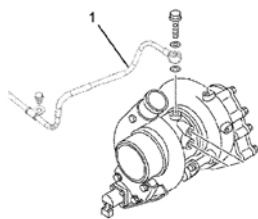

Figure 9
11. Remove the oil feed pipe (see Figure 9).